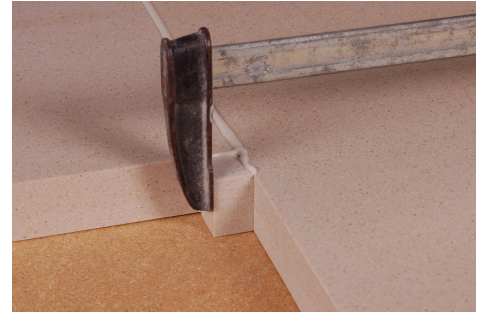

Figure 19A
- Adhere a Wilsonart® Solid Surface block into the inside corner and clamp in place. Block must cover entire length of seam from top of deck to bottom of drop edge. (FIG. 19A)